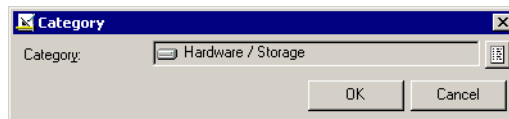

Figure 8: Default Category Location Window
5. Double-click on the **Category** field in the New Template Dialog box shown in Figure 8 to open the Category window.